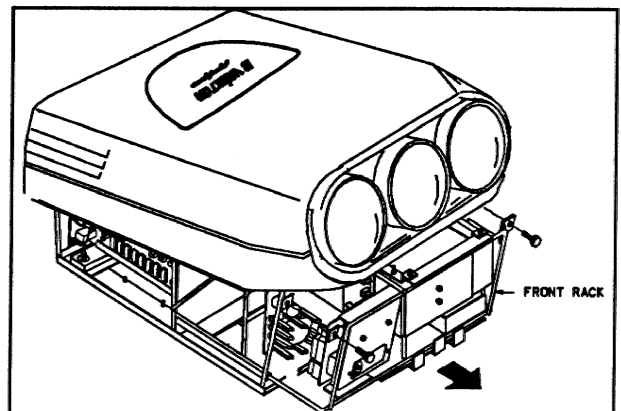

FIGURE 5-6. Slide-out Rack Access 02080805
- c) The front rack is positioned behind the front panel and secured by two hex head screws to the projector frame. Remove the screws as shown in Figure 5-6.